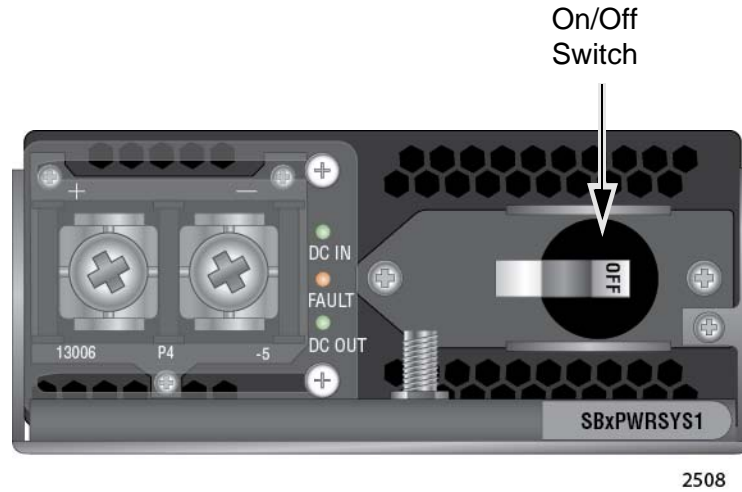

Figure 31. On/Off Switch on the AT-SBxPWRSYS1-80 DC Power Supply
3. Verify that the On/Off switch on the power supply is in the Off position. Refer to Figure 31 on page 66.